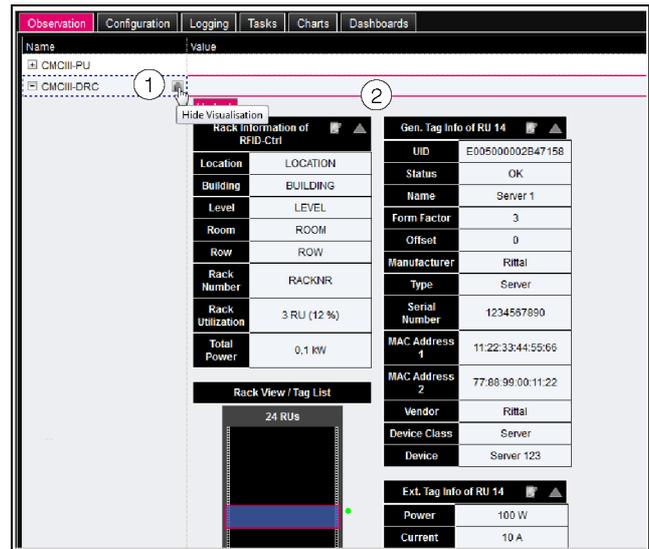

Fig. 14: Graphical display
The display switches to the graphical display (fig. 14). All information for the IT rack and the individual RFID tags can be seen at a glance and edited here (fig. 14, item 2). After selecting the "CMCIII-DRC" level, if the graphical display is shown, you can switch to the tree view as follows:
- Click the grey-scale "graph" symbol after the "CMCIII-DRC" entry (fig. 14, item 1).